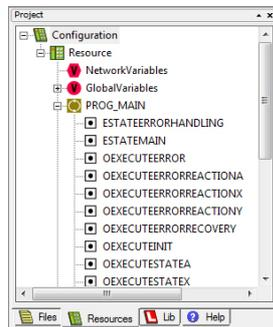

Figure 2-24 Project Explorer Resources
- 1) Select “Resources” tab in the project explorer (→ Figure 2-24).